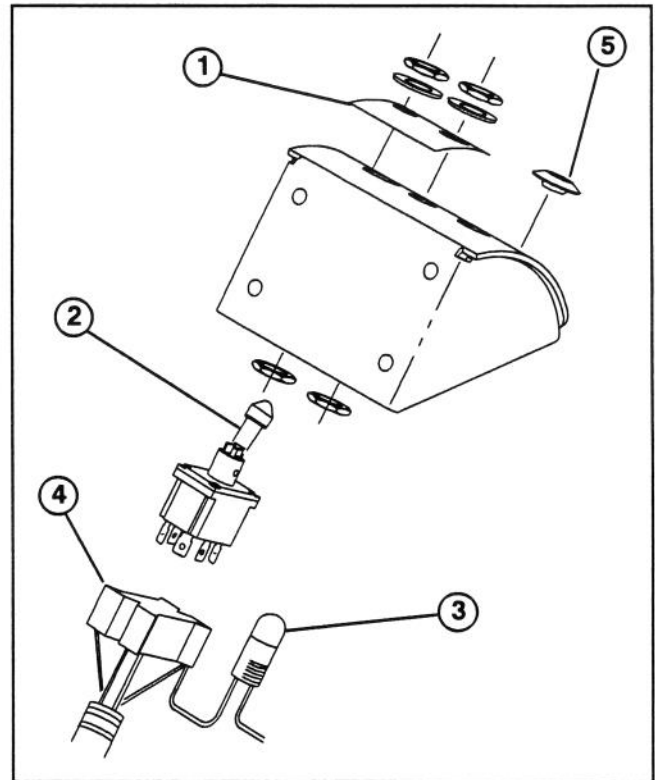

Figure 2
4. Affix electric clutch decal around upper right and center holes of switch bracket (Fig. 2).
5. Mount electric clutch switch in upper right hand hole of switch bracket with a washer and (2) hex nuts (Fig. 2). Washer to be positioned between top nut and switch bracket.
6. Plug wire harness into the clutch switch (Fig. 2).
7. Remove lens and bulb from wire harness indicator light assembly (Fig. 2).
8. Mount indicator light fixture in center upper hole of switch bracket with a washer and (2) hex nuts (Fig. 2). Washer to be positioned between top nut and switch bracket.
9. Reinstall lens and bulb to indicator light fixture (Fig. 2).
10. Insert snap-in plugs into all unused holes in switch bracket (Fig. 2).